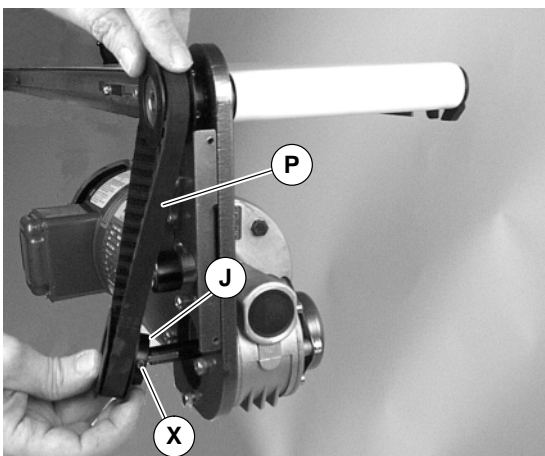

Figure 20
NOTE: If drive pulley (J of Figure 20) is replaced, wrap timing belt around drive pulley and complete step 3.
3. Loosen drive pulley set screws (X of Figure 20). Remove drive pulley (J) and timing belt (P).
NOTE: Drive pulley (J of Figure 20) is removed. Wrap timing belt around drive pulley and complete step 13.